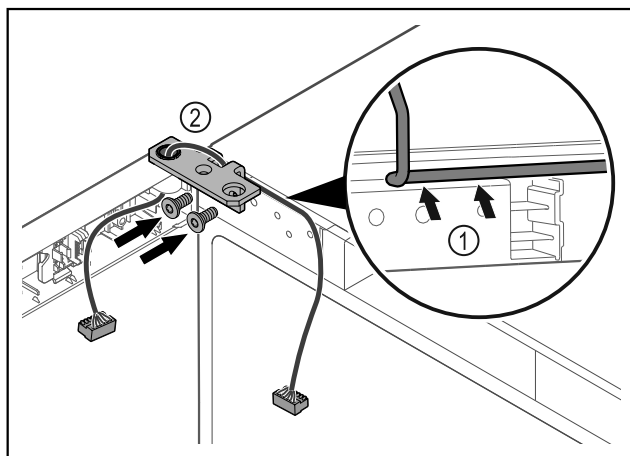

Fig. 38
- Feed the cable through the recess in the hinge and lay it carefully Fig. 38 (1).
- Screw on the hinge Fig. 38 (2).